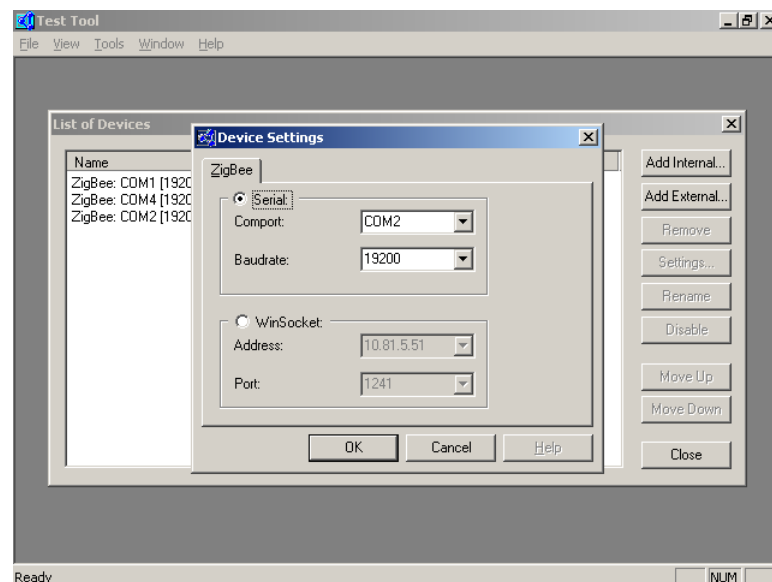

Figure 8 Running Test Tool for the First Time
The sample applications provided on the 13193 Evaluation Kit CD are based on Freescale's Simple MAC (SMAC) and/or 802.15.4 MAC software. For the ZigBee stack and application examples, see the Figure 8 Wireless Z-Stack CD included in the 13193EVK.
5. If running “Test Tool” for the first time, setup the board connection by selecting Communication Settings from the Tools menu as shown in Figure 8. From the “List of Devices” window, select the “Add Internal” option and click on the “Serial” button. Choose the appropriate Com Port and click on the “OK” button.